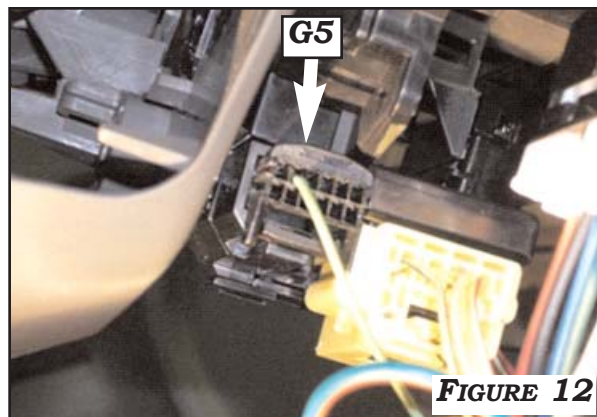
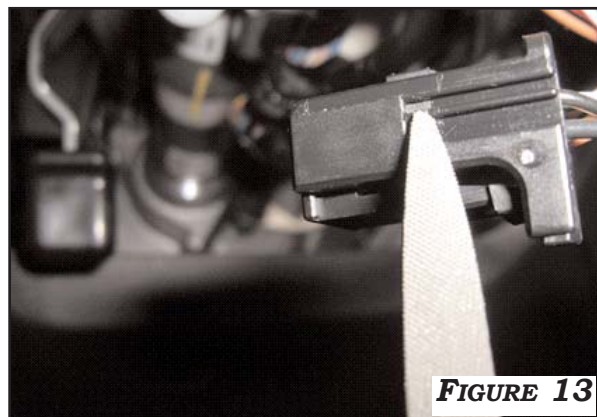
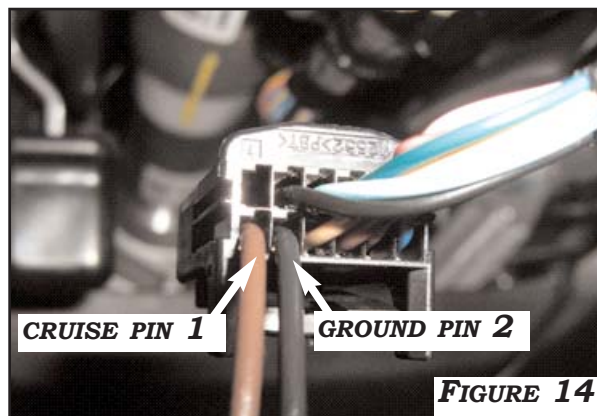
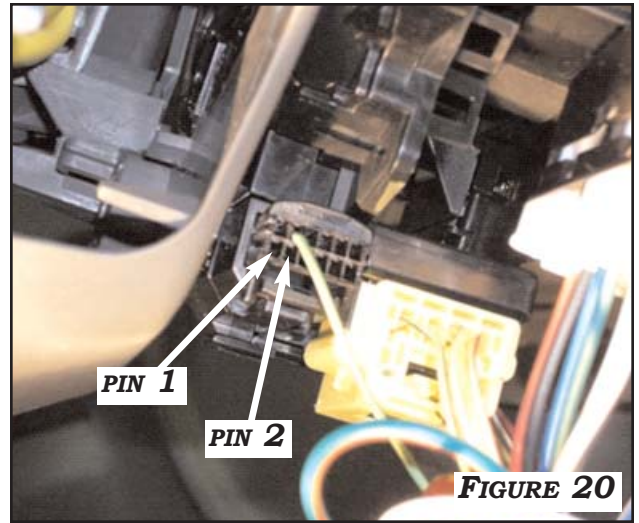

FIGURE 12
FIGURE 13
FIGURE 14
FIGURE 20
1. LOCATE BLACK CONNECTOR **G5** BEHIND STEERING WHEEL AT RIGHT SIDE OF COLUMN. **FIGURE 12**. REMOVE CONNECTOR. **BE SURE TO PRESS IN TABS ON BOTH SIDES TO PUSH UP TERMINAL RETAINER AT THE CENTER OF CONNECTOR.** **FIGURE 13**. INSERT THE **CLOCK-SPRING** TERMINAL FROM THE **BROWN** CRUISE ECM HARNESS TO **PIN 1** (CRUISE CIRCUIT) OF CONNECTOR **G5** CAREFULLY LOCKING TERMINAL INTO PLACE. **FIGURE 14**. PULL THE TERMINAL BACK GENTLY TO CHECK WHETHER IT IS LOCKED CORRECTLY.
2. INSERT THE **CLOCKSPRING** TERMINAL FROM THE **BLACK** CRUISE GROUND HARNESS INTO PIN 2 OF CONNECTOR **G5** CAREFULLY LOCKING TERMINAL INTO PLACE. PULL THE TERMINAL BACK GENTLY TO CHECK WHETHER IT IS LOCKED CORRECTLY. **FIGURE 14**. REASSEMBLE CONNECTOR AND PLACE BACK ONTO CLOCKSPRING. **BE SURE RETAINER IS PRESSED IN BEFORE REINSTALLING.**
1. LOCATE CONNECTOR G5 OF CLOCKSPEED BELOW RIGHT HAND SIDE STEERING COLUMN. REFER TO **FIGURE 12**, PAGE 5.
2. WITH IGNITION SWITCH ON, PLACE POSITIVE LEAD OF METER ON **PIN 1** (DC).
3. PLACE COMMON LEAD ON **PIN 2** (GROUND). **SEE FIGURE 20**. CONFIRM READINGS ARE AS FOLLOWS: